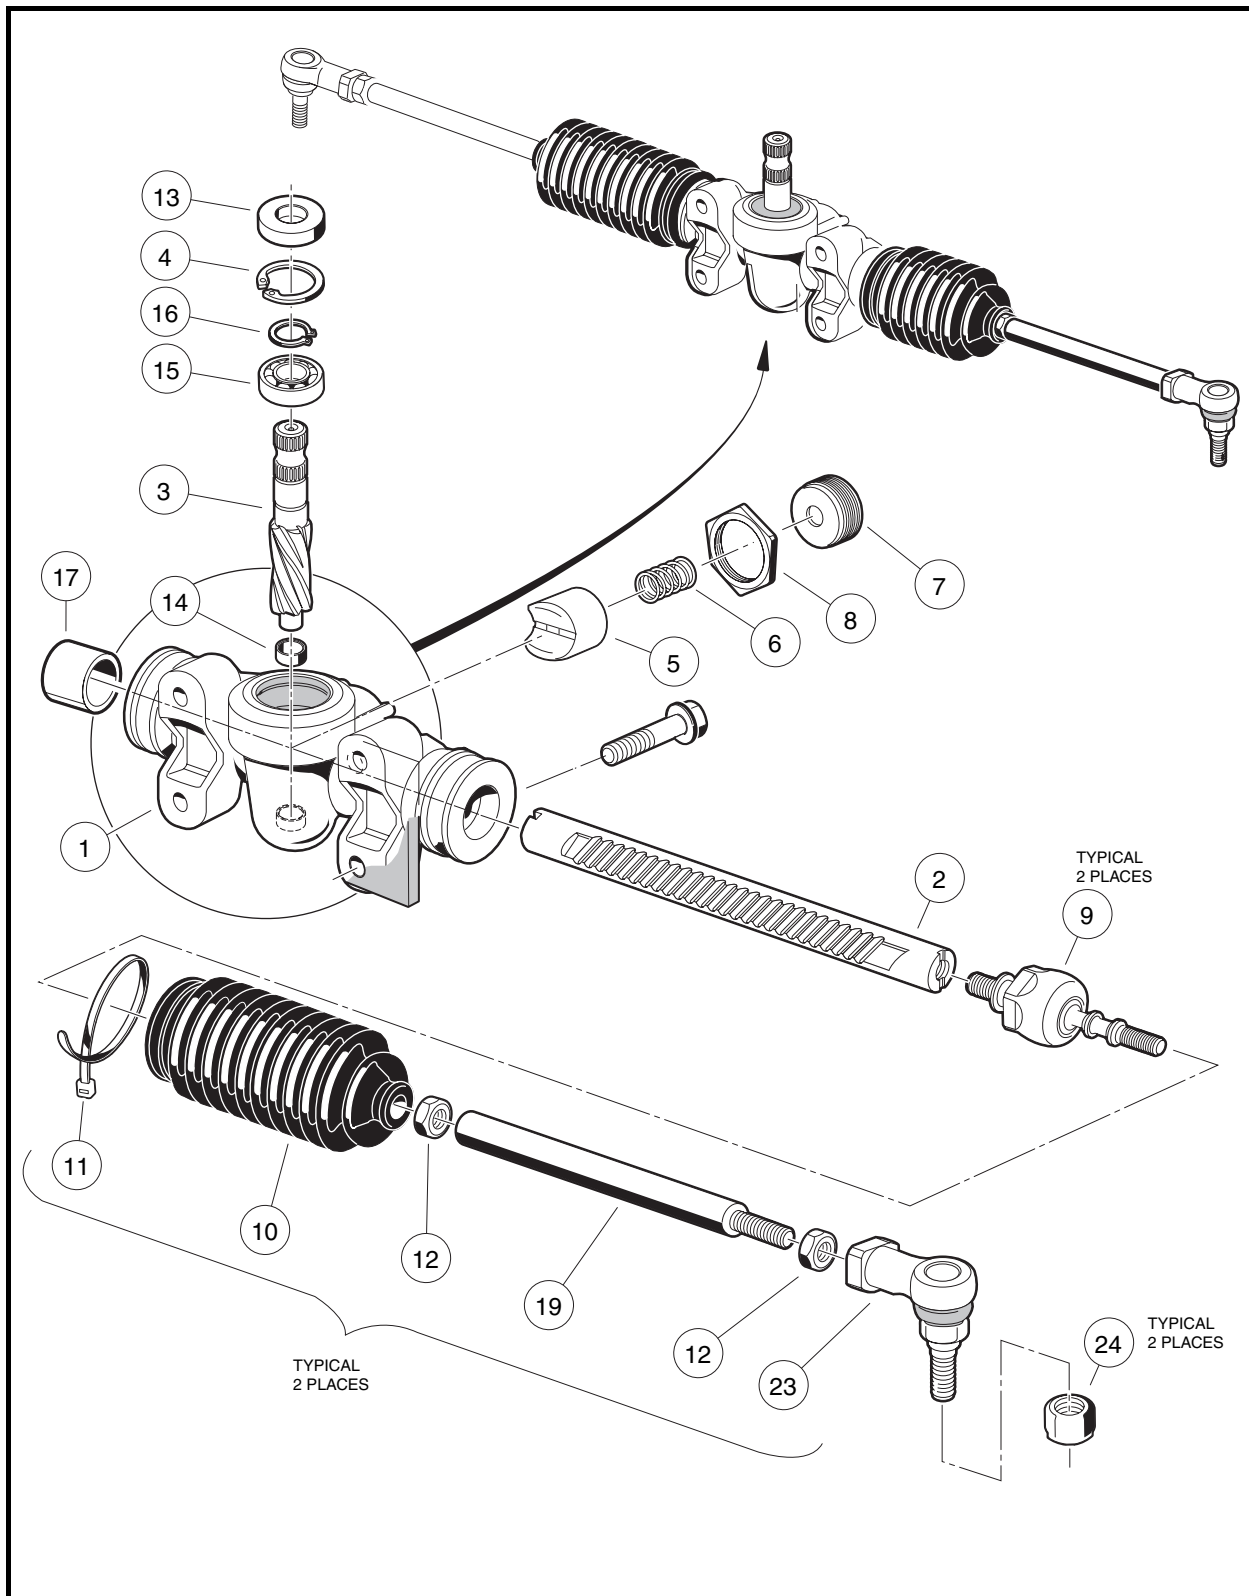

Figure 7-16 Steering Gear Assembly
6. Remove the rack screw nut (8), rack guide screw (7), rack guide pressure spring (6), and the rack guide (5) (**Figure 7-16, Page 7-8**).
12. Inspect the bushing (17) and needle bearing (14) for excessive wear. If wear is excessive, replace the complete rack and pinion steering assembly (**Figure 7-16, Page 7-8**).
13. Inspect the inner ball joints for wear (**Figure 7-16, Page 7-8**). If either is excessively worn, replace both ball joints.
14. Remove the rack (2) from the housing (1) (**Figure 7-16, Page 7-8**).
1. Apply a liberal amount of EP grease to the teeth of the rack (2), then slide the rack through the bushing (17) and housing (1) (**Figure 7-16, Page 7-8**).
6. Apply a small amount of grease to the rack guide (5) where it contacts the rack (2) (**Figure 7-16, Page 7-8**).
10. Install the rack guide (5), pressure spring (6), and screw (7). Thread-in the screw until it bottoms out, and then unscrew it 1/4 turn (**Figure 7-16, Page 7-8**).